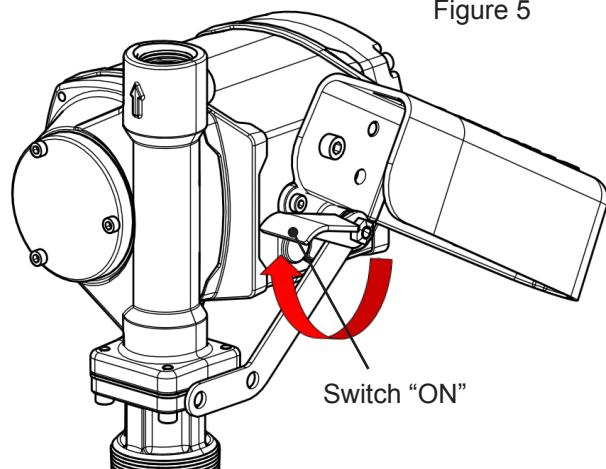

Figure 5
3. Move the switch lever to the “ON” (raised) position to start the motor (figure 5). The pump should start and settle into a slow idle.